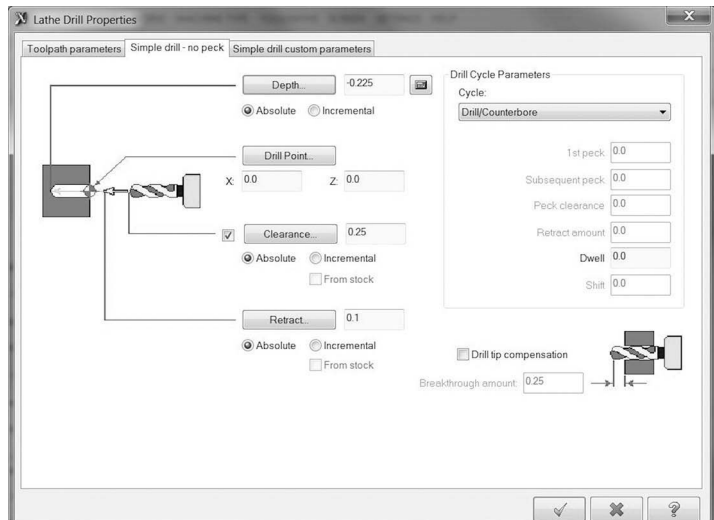

Figure 5-75 Simple Drill
- Select the Simple drill—no peck tab and adjust the settings to match Figure 5-75. Use the Calculator button next to the Depth field to access the Depth Calculator